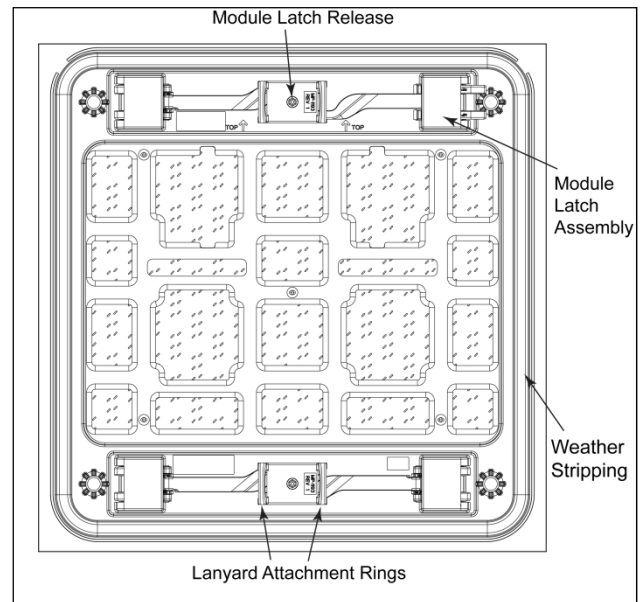

Figure 6: Module Rear
6. Disengage the upper and lower module latch release with a $1/8$ " Allen wrench and turn the release approximately $1/2$ turn clockwise. Refer to **Figure 6**.